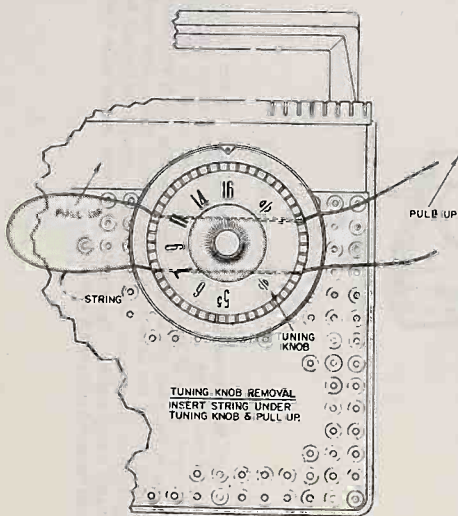

Figure 1 - Tuning knob removal
2. Remove the tuning control knob as shown in figure 1. Insert a loop of string under the tuning knob and pull the knob out of the cabinet front.